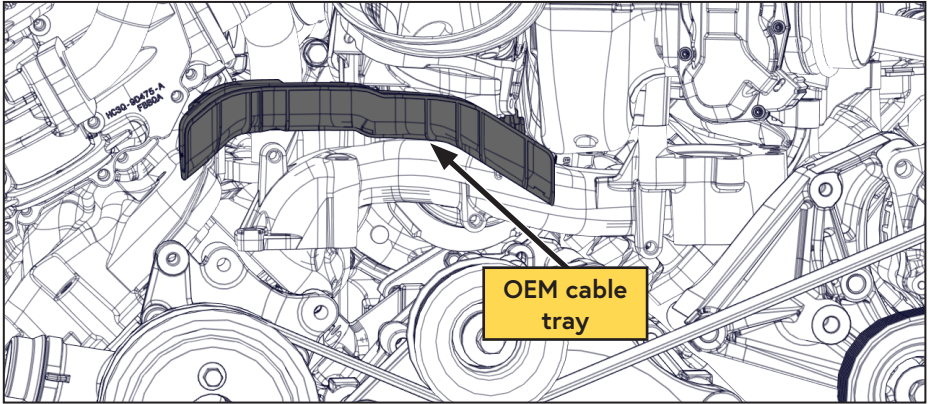

Figure 2 — OEM wiring tray
- Remove the cable tray. Retain the cable tray and bolt as they will be reused (Figure 2).